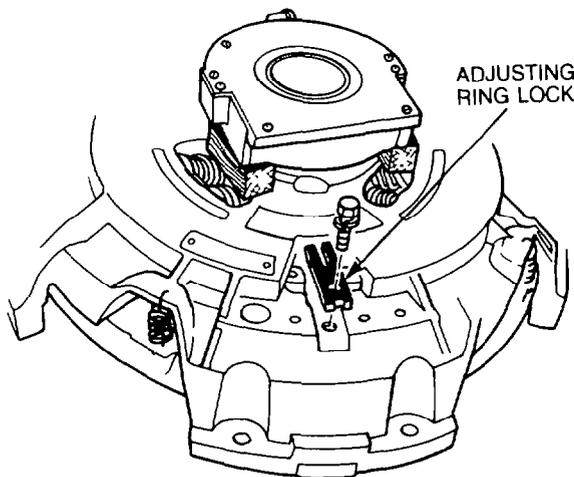

Figure 155 — Adjusting Ring Lock Removal
- b. Remove the front clutch plate, intermediate plate and the rear clutch plate from the clutch assembly. Invert the clutch housing and remove the bolt securing the adjusting ring lock to the housing, then pry the lock free of the adjusting ring (see Fig. 155).